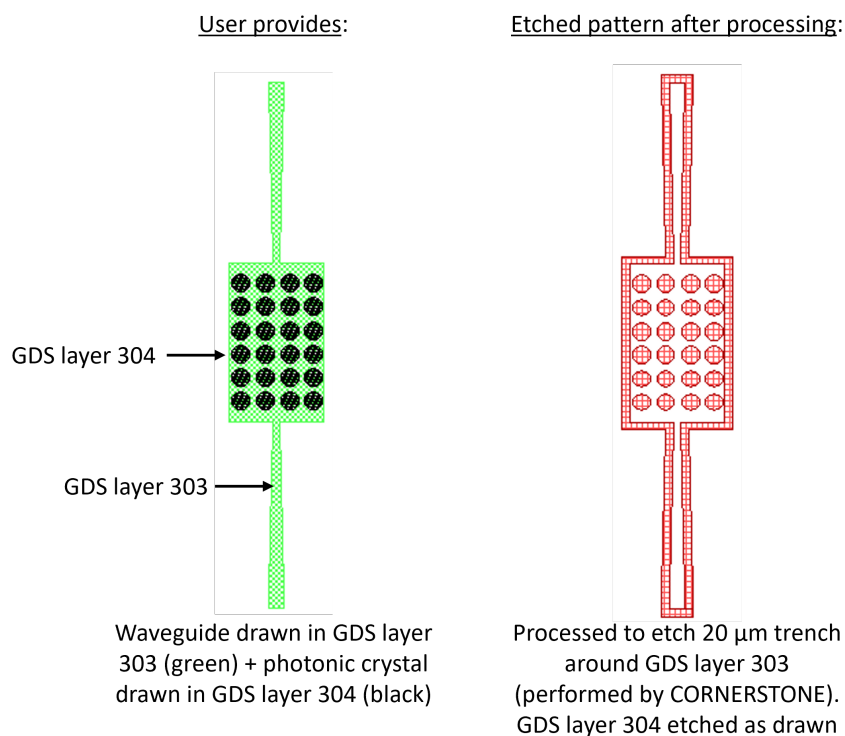

Figure 4: Example photonic crystal structure using GDS Layers 303 & 304.
- GDS Layer 304: Drawn objects on this layer will be exposed to 1.8 μm germanium etch. An example photonic crystal structure is shown in Figure 4. The important thing to note here is that the waveguide layer drawn in GDS layer 303 should overlap the structures drawn in GDS layer 304, so that when the 20 μm -wide trenches are generated by CORNERSTONE, a continuous waveguide remains.